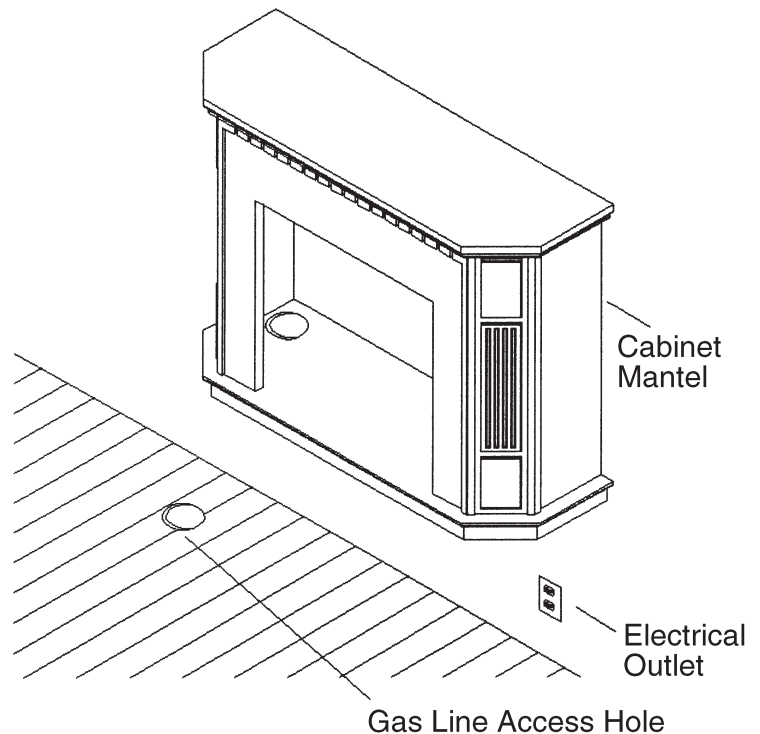

FIGURE 9 – Installing Cabinet Mantel
2. If using an optional Blower, install a properly grounded, 120 volt three-prong electrical outlet. See *Installing optional Fan Kit* for complete installation. If possible, locate outlet so cabinet mantel will cover it when installed (see Figure 9).
3. Install gas piping to firebox location. See *Installing Gas Line*. You may have to cut an access hole in the floor or wall to run gas line to firebox. Make sure to locate access hole so cabinet mantel will cover it when installed (see Figure 9).